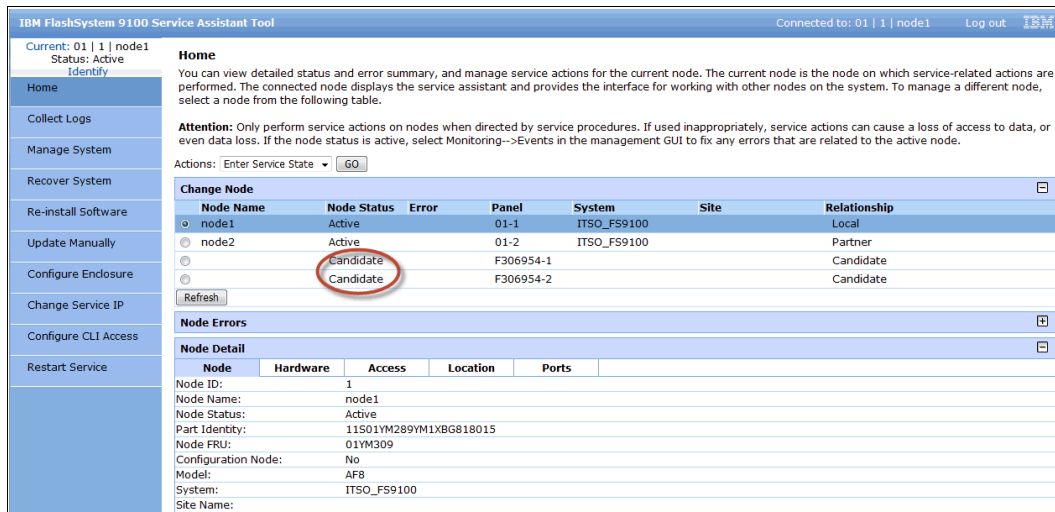

Figure 5-34 View from cluster Service Assistant showing Control Enclosure 1 and 2
- Using Service Assistant on the cluster IP, the FlashSystem 9100 Control Enclosures 1 and 2 are shown as in Figure 5-34.